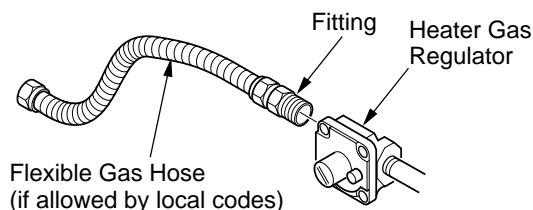

Figure 11 - Attaching Flexible Gas Hose to Heater Gas Regulator
1. Apply pipe joint sealant lightly to male threads of the fitting to be threaded into gas regulator. Connect approved flexible gas hose to gas regulator of heater (see Figure 11, page 11).